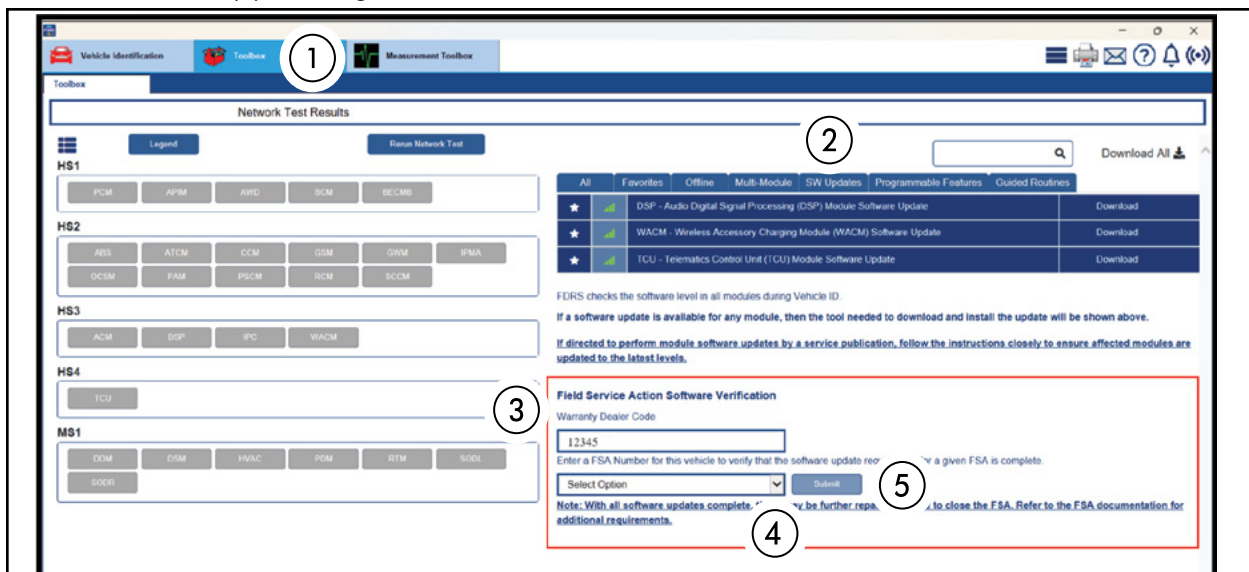

FIGURE 2
9. Select the **Toolbox** tab (1). See Figure 2.
10. Select the **SW Updates** tab (2). See Figure 2.
11. **Warranty Dealer Code** - Change the displayed PA code as necessary (3). See Figure 2.
12. Select the **FSA** from the drop-down menu (4). See Figure 2.
13. Select **Submit** (5). See Figure 2.